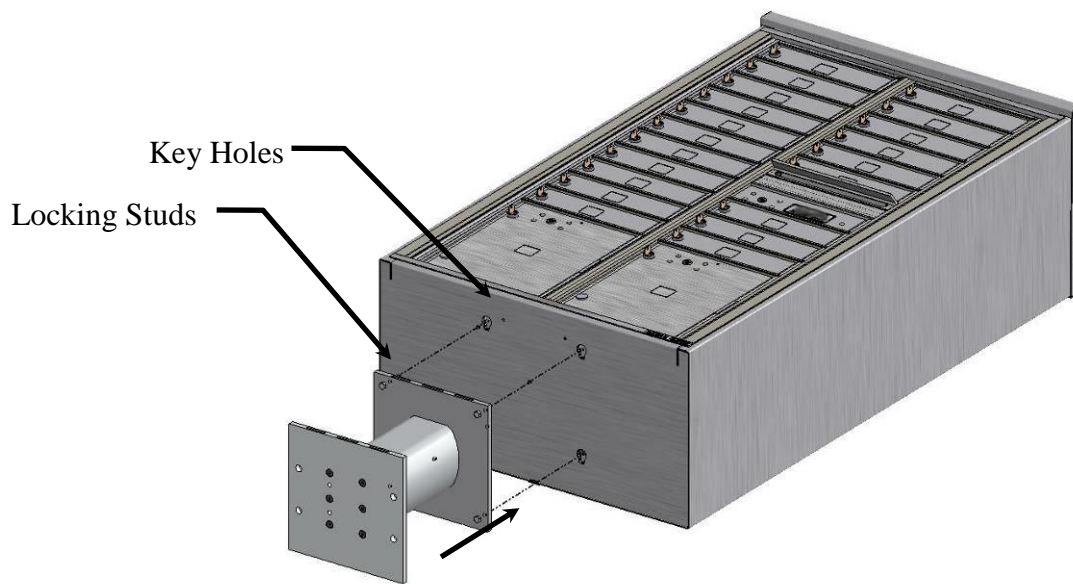
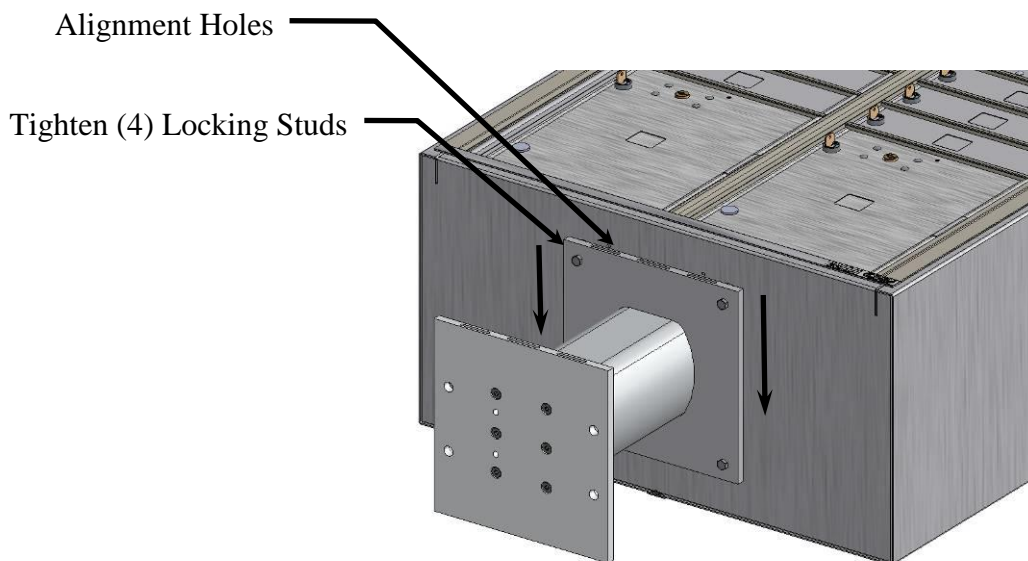

Figure 4 – Installing Pedestal to Cabinet
Figure 5 – Secure Pedestal to Cabinet by Setting Locking Studs
- b) Insert pedestal locking studs in key holes in the bottom of the cabinet. (See Figure 4)
- c) Once pedestal is all the way in - push pedestal down until it locks into place. When two (2) alignment holes are in full view above the pedestal, it is locked in the proper position.
- d) Tighten the (4) locking studs to firmly secure pedestal in place before standing the unit up. (See Figure 5) **Caution!** Locking studs must be tightened to ensure proper unit stability.